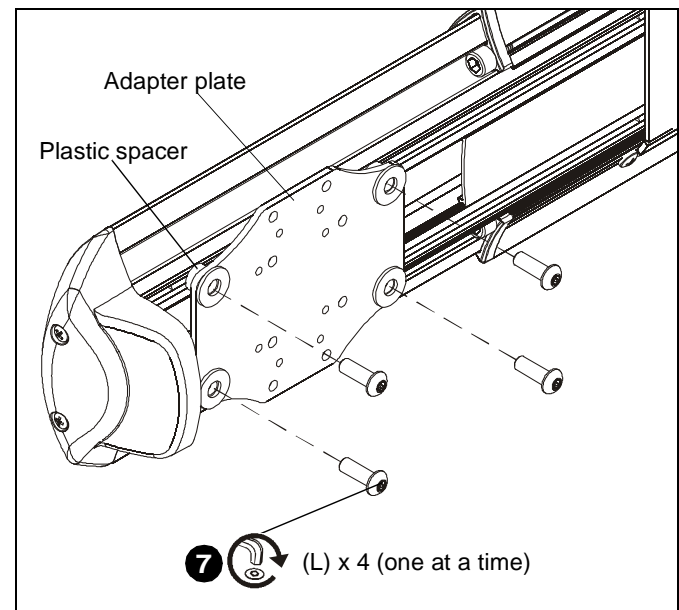

Figure 32
7. Install one 1/4-20 x 3/4" button head security screw (L) into hole vacated by removing bolt in Step 6 and into plastic spacer. (See Figure 32)